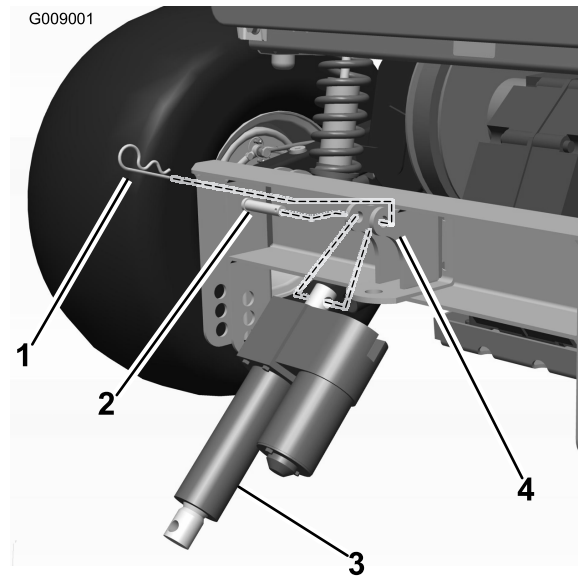

Figure 2
3. Secure the actuator to the lift with the clevis pin and hairpin cotter (Figure 2). Position the actuator as shown in Figure 2.